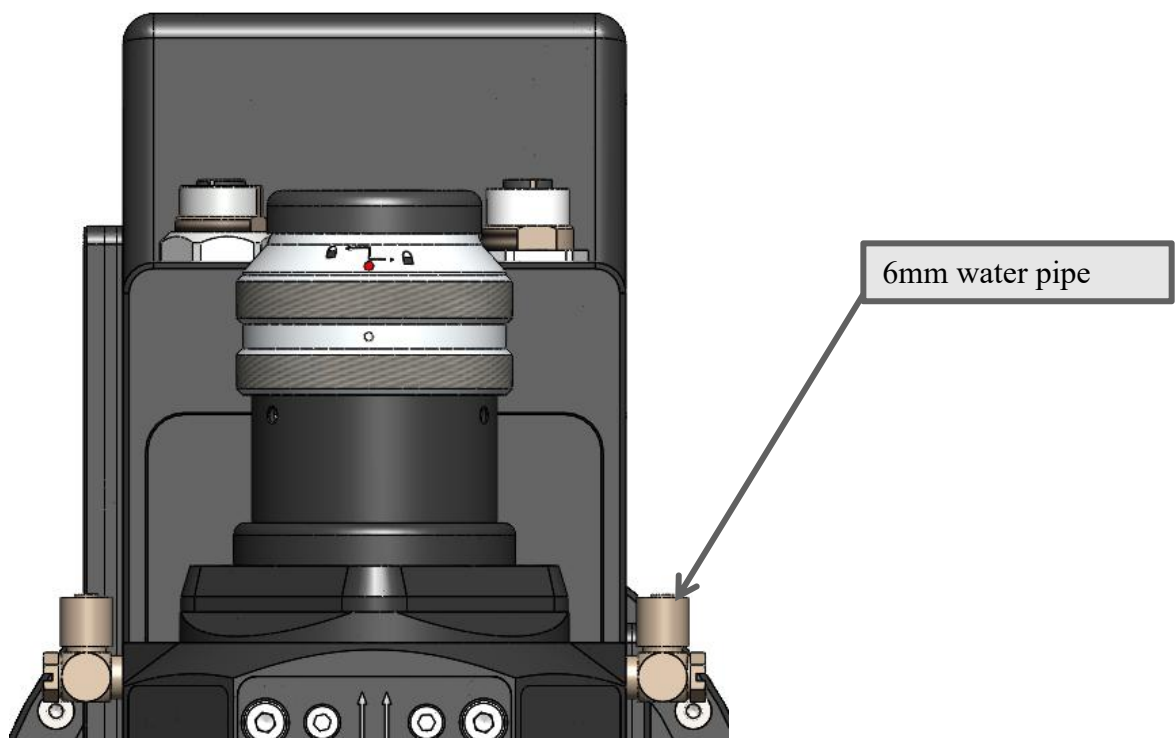

Figure 1.6
- ① Used for cooling QBH and reflector, with 1-inlet and 1-outlet cooling connection, as shown in Figure 1.6